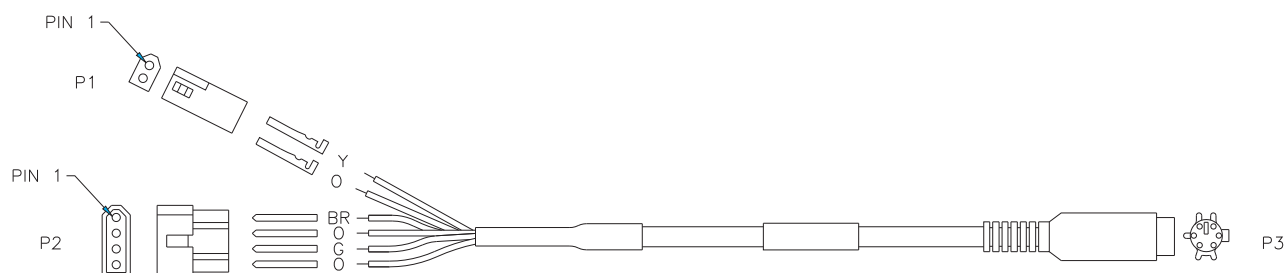

Figure 3.3. Handshake cable (PN 319822)
1. Connect the six-pin connector of the handshake cable (PN 319822) to the six-pin MINI-DIN connector labeled "Autosampler" located on the Trace 2000 GC back (Figure 3.3, see Table 3.1 and Table 3.2 for pinouts).